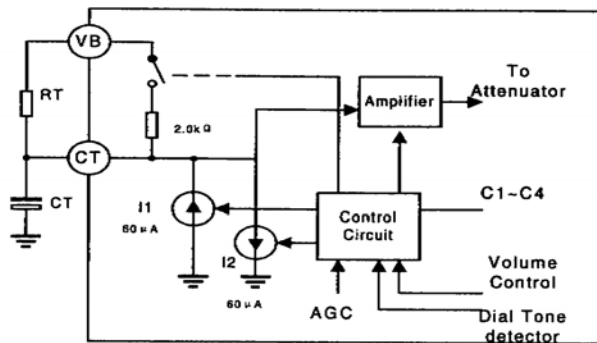

Fig. 5. CT Attenuator control block circuit
4. The circuit will switch to the slow idle mode when: (A) both talkers are quiet( no speech present) or (B) when one talker's speech level is continuously over-ride, by noise at the other speaker's location. The time required to switch the circuit between transmit, receive, fast idle, and slow idle is determined in part by the components at the CT pin( pin14), (see the section on switching timers for a more complete explanation of the switching time components A schematic of the CT circuitry is shown in Figure 5, and operates as follows: